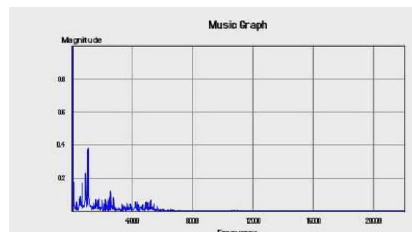

Fig 1.2
- 5) On connecting both the instruments you shall observe a spectral lines other than the zero frequency line as shown in fig 1.2